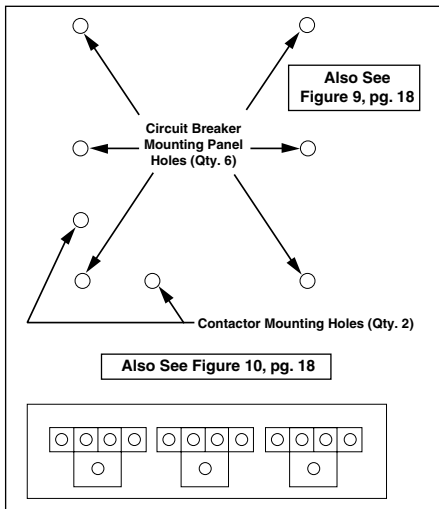

Figure 2. Control Mounting Location
Three pole control contactors locate on the element mounting panel above the factory installed terminal block. See Figure 2 for location of the two (2) mounting holes required for kit power wiring to be of proper length. Mount contactor with screws provided in kit.
Contactor/Circuit Breaker control panel is shipped fully assembled for mounting above the factory installed terminal block using the six (6) mounting holes provided. See Figure 2 for layout location and mount panel with screws provided in kit.